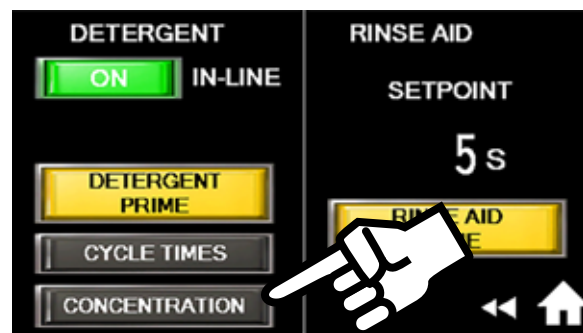

Fig. 75 - Detergent Concentration
SET DETERGENT CONCENTRATION: For Inline Sensor Equipped Machines (Fig. 75).
1. Set up by pressing the "CONCENTRATION" button, (Fig. 75), The concentration display indicates the sensor is ON.